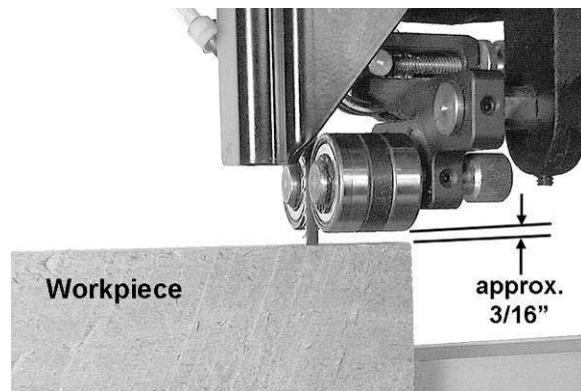

Figure 33
2. Adjust blade guide assembly so that the guide bearings are just above the workpiece (about 3/16") allowing minimum exposure to the blade. See Figure 33.